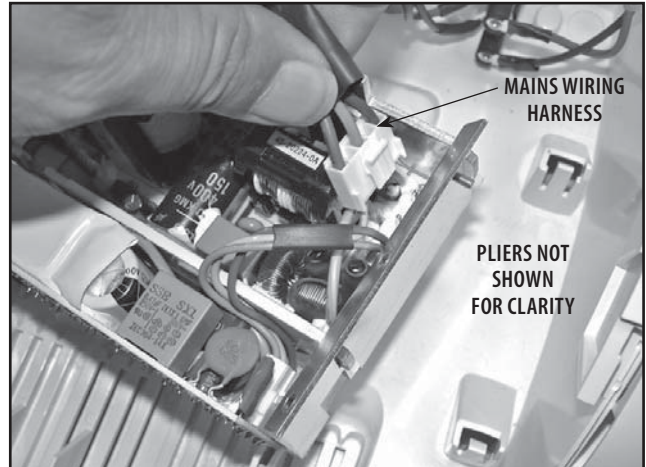

FIGURE 6.42
9. Remove 100 Watt Power Supply from Mounting Bracket by removing the two retaining screws from the inside top of the Power Supply. **See Figure 6.42.**